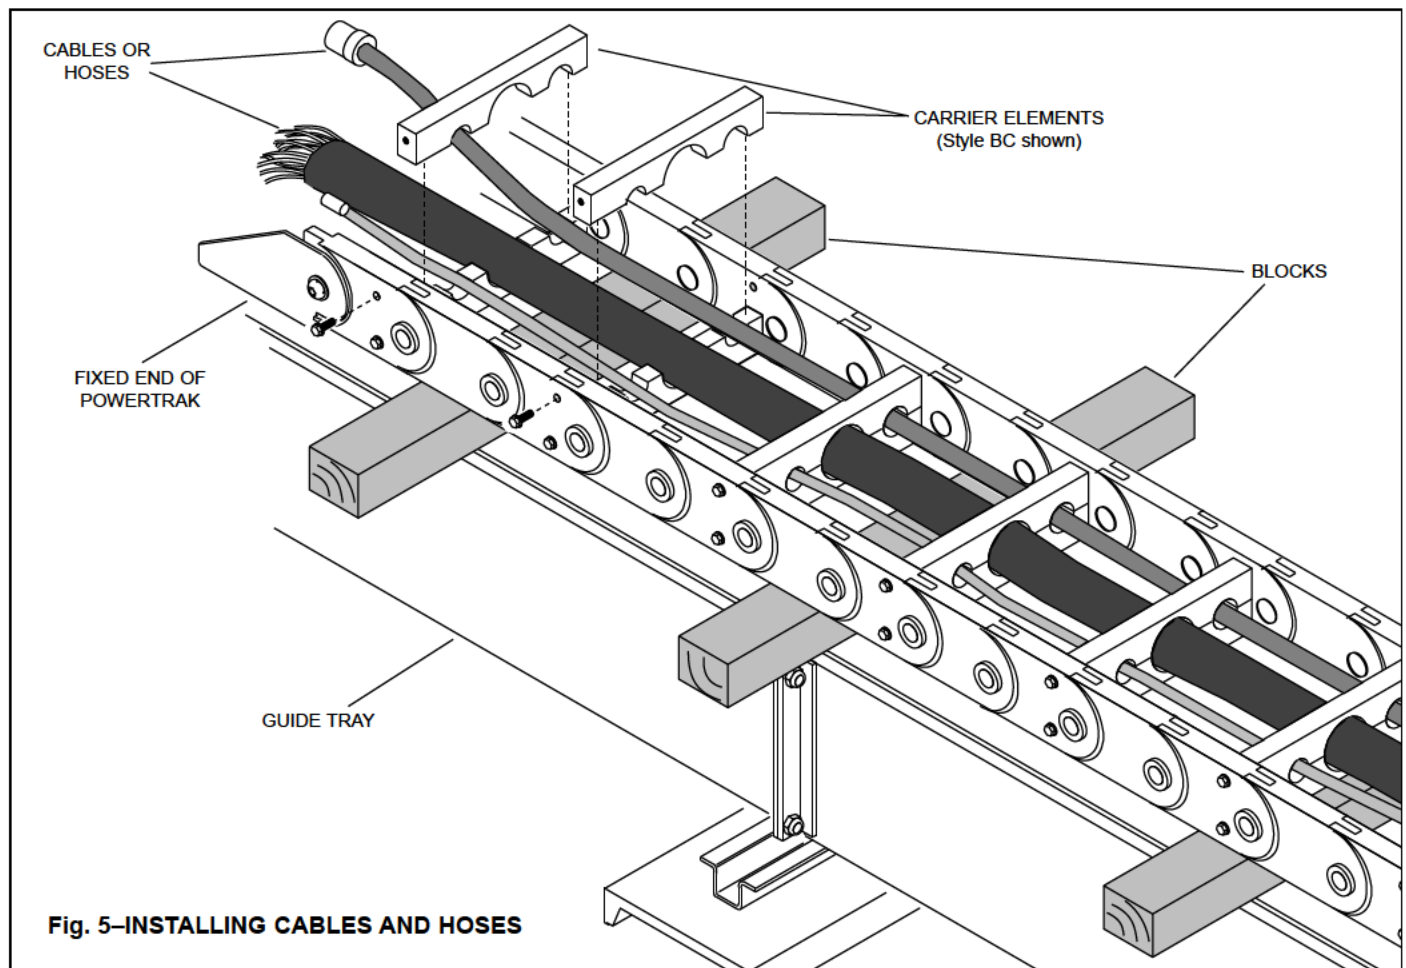

Fig. 5—INSTALLING CABLES AND HOSES
1. Lay trak on blocks supported by guide tray. (See Fig. 5).